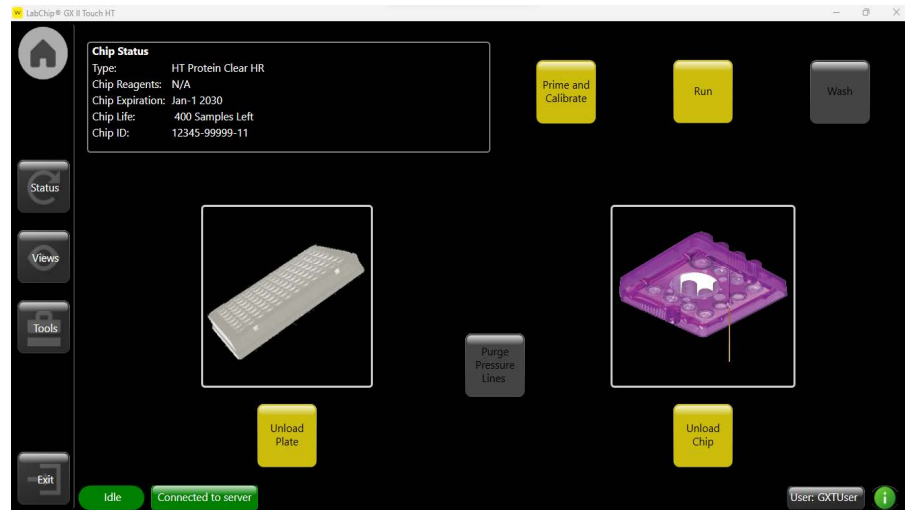

Figure 7. Prime and Calibrate button.
- 1 Touch the *Prime and Calibrate* button on the *Home* screen (Figure 7).